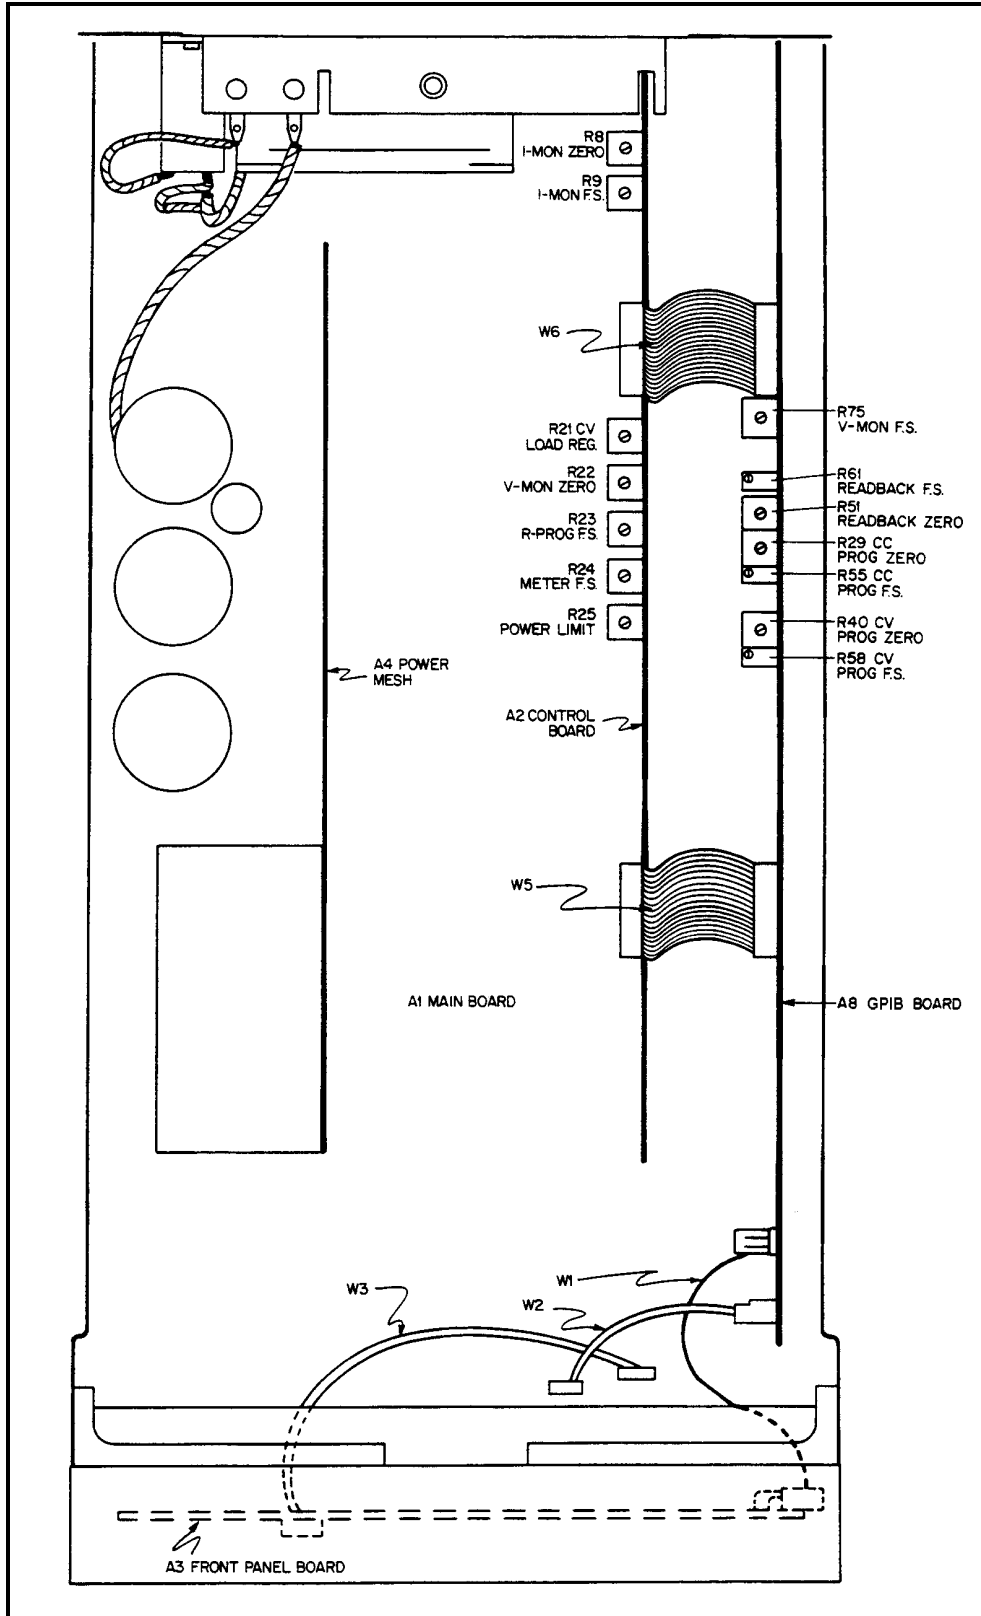

Figure 6-1. Top View, Top Covers Removed
- Component location illustrations (Figures 6-1 through 6-6), showing the physical location and reference designators of almost all electrical parts. (Components located on the rear panel are easily identified.)